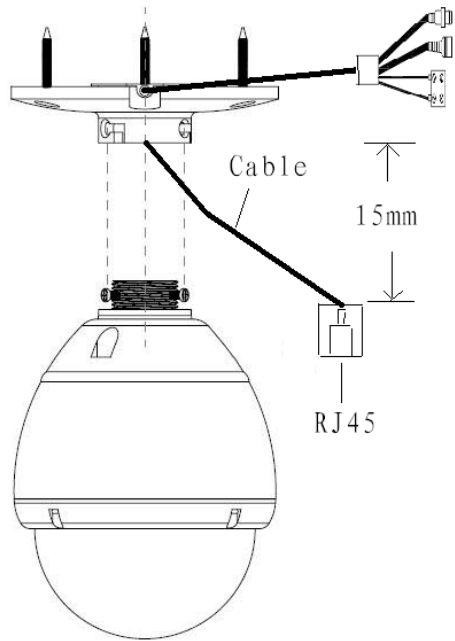
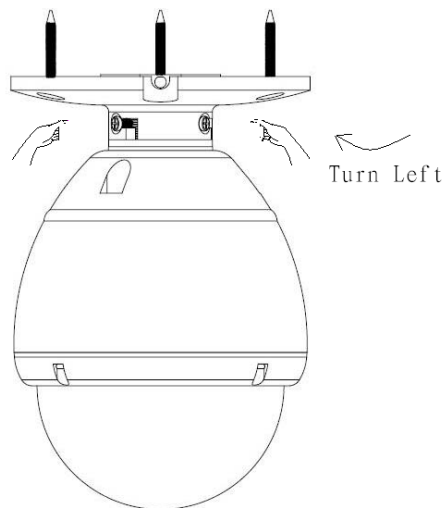

Fig.3
Fig.4
- (3) Let the RJ45 left about 15mm from the Speeddome mounting base. (Fig.3)
- (4) Mount the Speeddome mounting base with three screws (4*35 type) on the ceiling.
- (5) Connect the RJ45 with the bottom of the speed dome.
- (6) Put the waterproof film into the bottom of the speed dome closely.
- (7) Put the thread connector into the Speeddome mounting base and then turn left, lock the screws of the thread connector to connect the Speeddome mounting base closely (Fig.4).